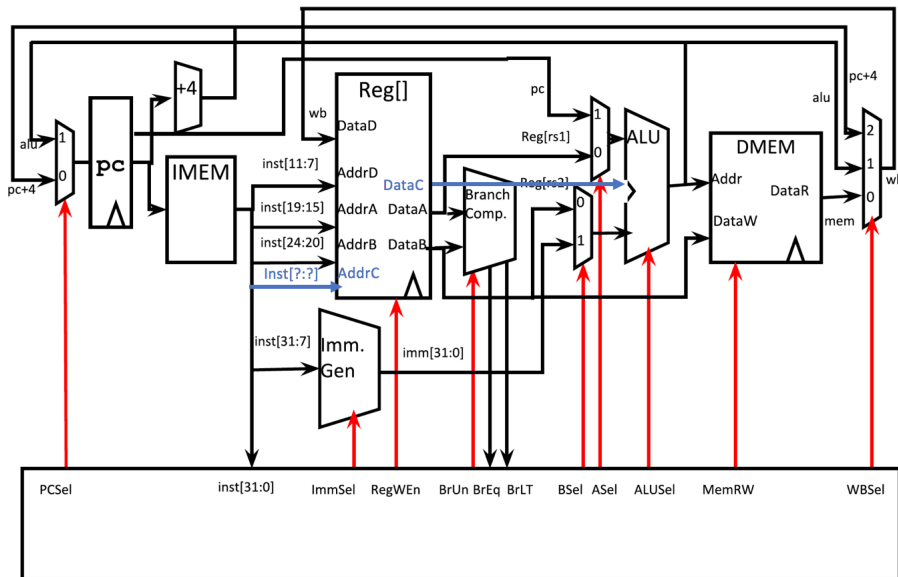

Figure 1: Updated CPU diagram for 1.(a)(i)
- a) To implement `add rd, rs1, rs2, rs3: rd = rs1 + rs2 + rs3`, we must add a new input address port and a new output data port to the register file. The third address would be coded in the instruction at unknown address. A new input port also needs to be added to the ALU. This is shown in figure 1.